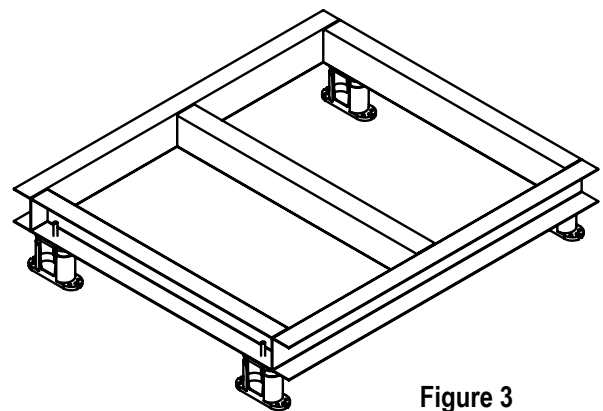

Figure 3
1. If spring mounts are to be used, fabricate a frame to provide support around the entire perimeter of the unit. Allow sufficient clearance for any door or panel access that is required to provide field service or maintenance on the unit. The frame will also need to be designed with suitable cross bracing. (Figure 3)